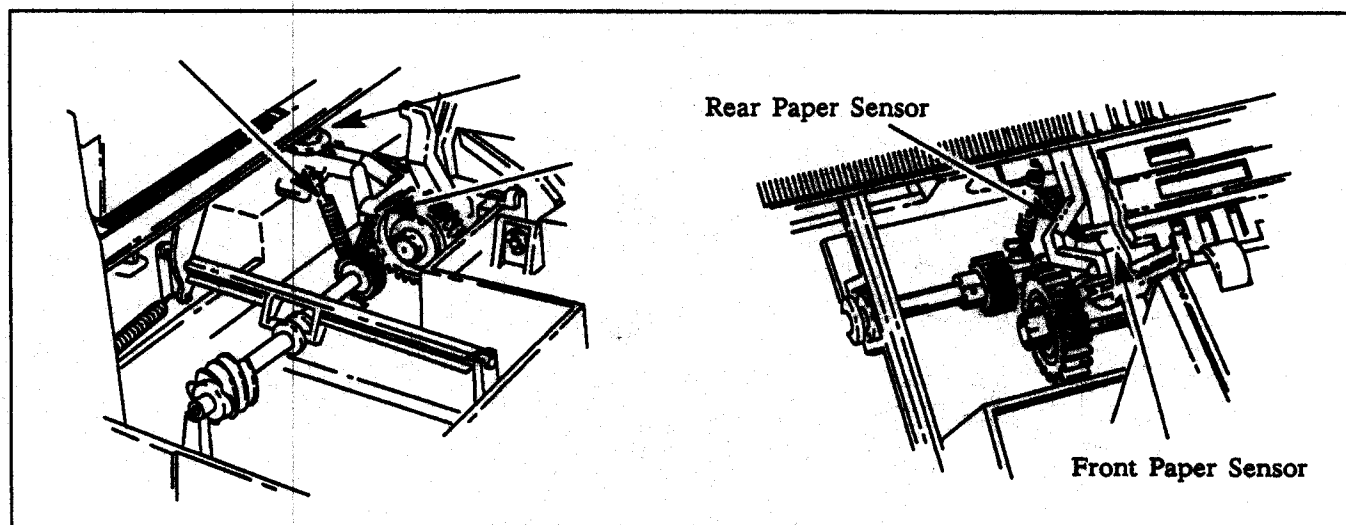

Figure 6-23. Front And Rear Paper Sensor Removal
- e. Unhook the springs from the front and rear paper sensors. See Figure 6-23.
- f. Remove the self-tapping retaining screw that mounts the paper sensors to the chassis. See Figure 6-23.